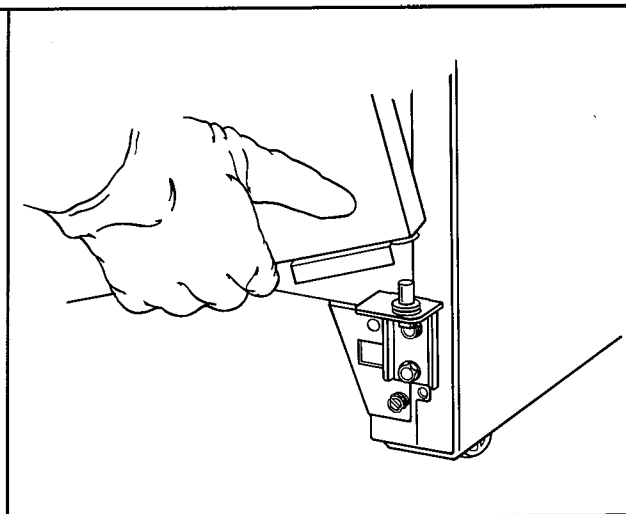

Figure 71
- a. Place door on cabinet by fitting bottom right socket over pin on bottom hinge bracket. See Figure 71.